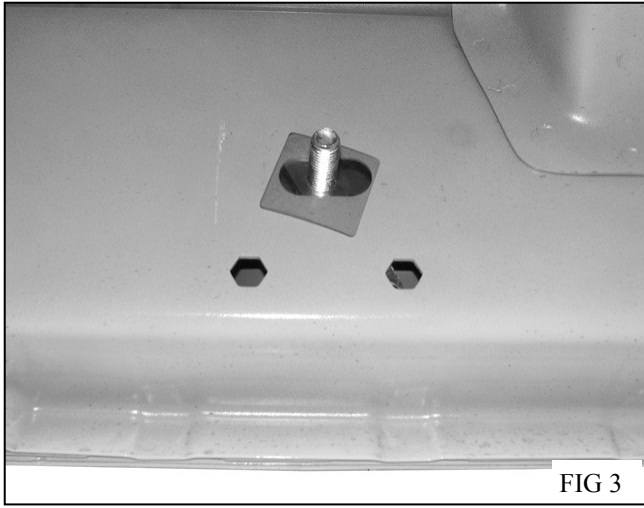

FIG 3
6. Move to the middle of the vehicle on the drivers side and remove the tape covering the factory oval hole. Install a bolt/nut plate as per step 2. (Fig 3)